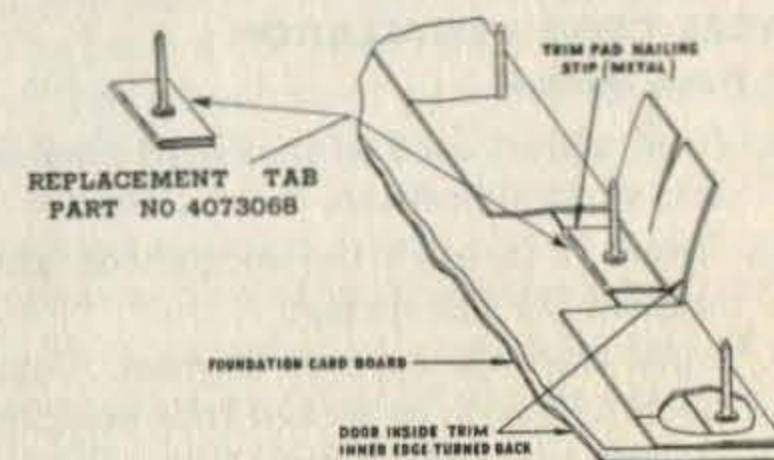

Fig. 35. Replacement Tab
**NOTE**—In the event a nail breaks off in the trim pad nailing strip, it should be replaced by turning back the trim material on the trim pad, and inserting a replacement tab. This replacement tab has a nail welded to it and is serviced under part No. 4073068. See Fig. 35.